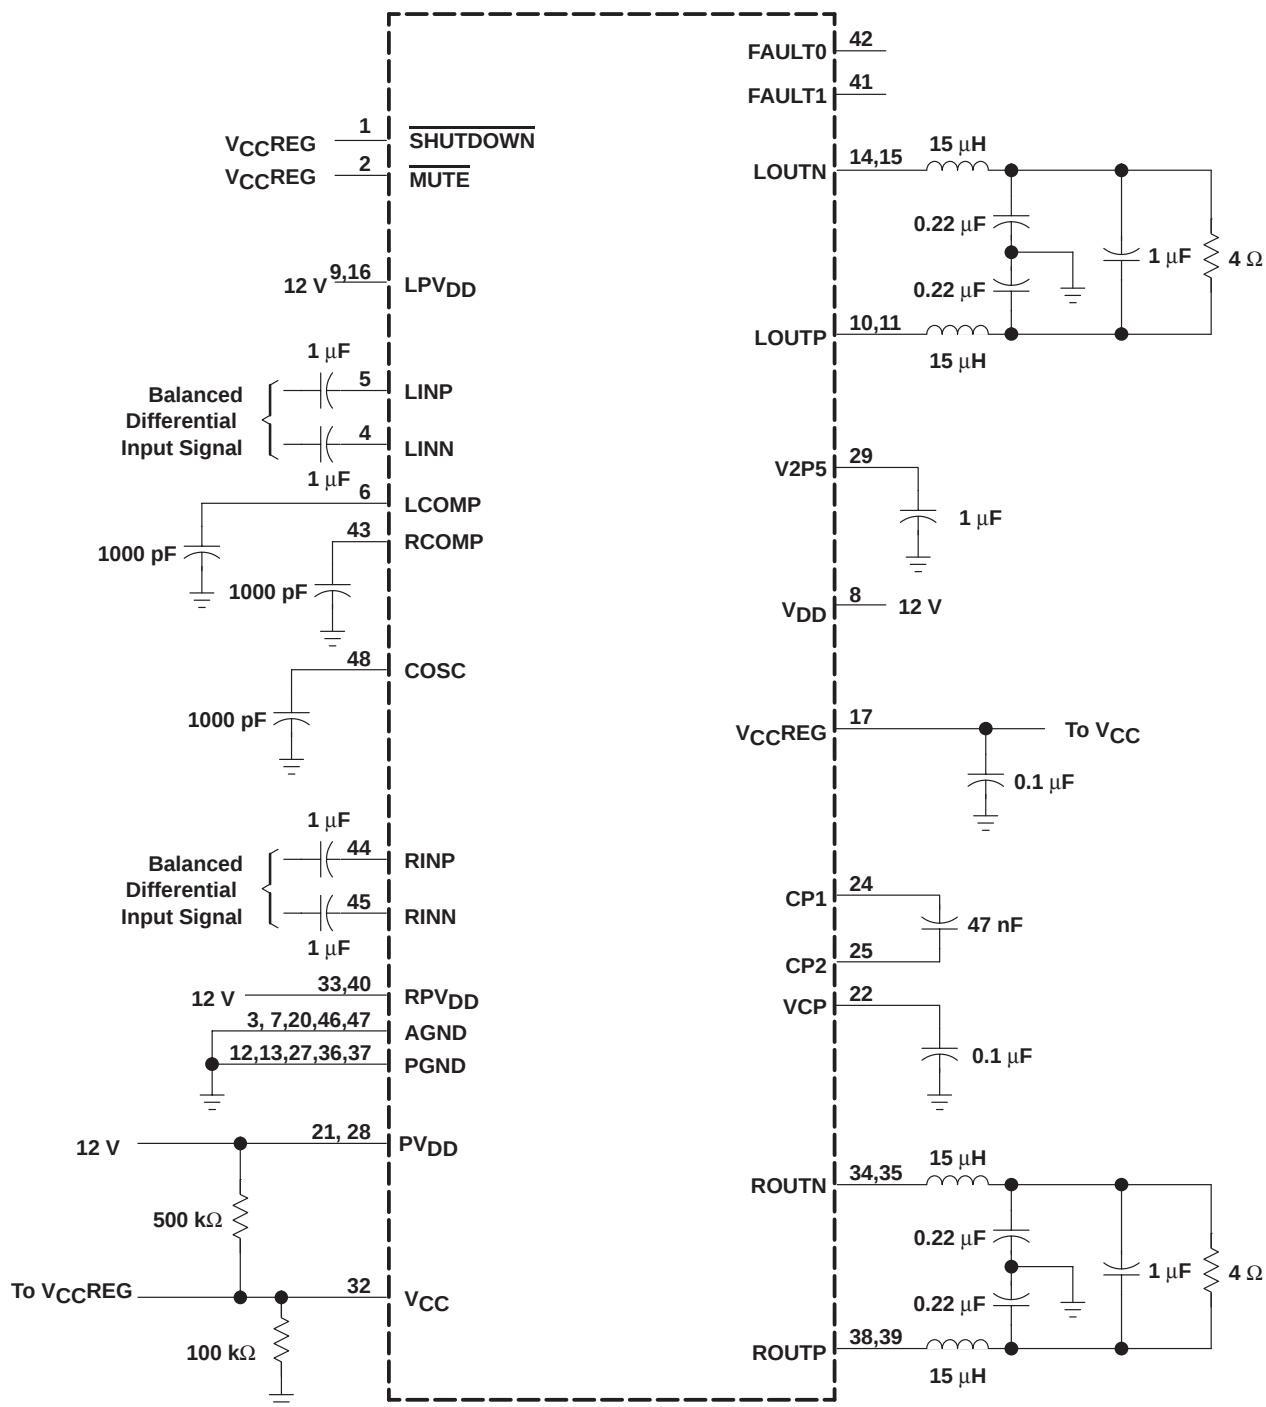

Figure 1. 12-V, 4-Ω Test Circuit
**electrical characteristics** Class-D amplifier,  $V_{DD} = PV_{DD} = LPV_{DD} = RPV_{DD} = 12\text{ V}$ ,  $R_L = 4\ \Omega$  to  $8\ \Omega$ ,  $T_A = 25^\circ\text{C}$ , See Figure 1 (unless otherwise noted)
**operating characteristics**, Class-D amplifier,  $V_{DD} = PV_{DD} = LPV_{DD} = RPV_{DD} = 12\text{ V}$ ,  $R_L = 4\ \Omega$ ,  $T_A = 25^\circ\text{C}$ , See Figure 1 (unless otherwise noted)